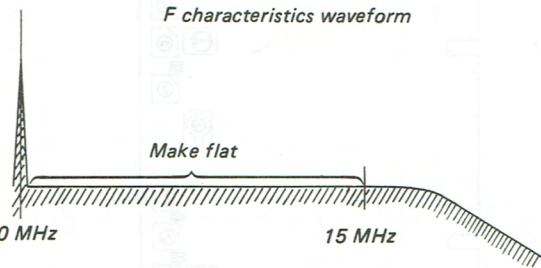

Fig. 35-2.
3. Connect the tracking scope probe to TP1 on BG Board and turn CV1 on BG Board to adjust frequency characteristics to be flat over entire range 0 ~ 15 MHz. See Fig. 35-2.
7. Connect the tracking scope probe to TP2 on BG Board and turn CV2 on BG Board to adjust frequency characteristics to be flat over entire range 0 ~ 15 MHz. See Fig. 35-2.